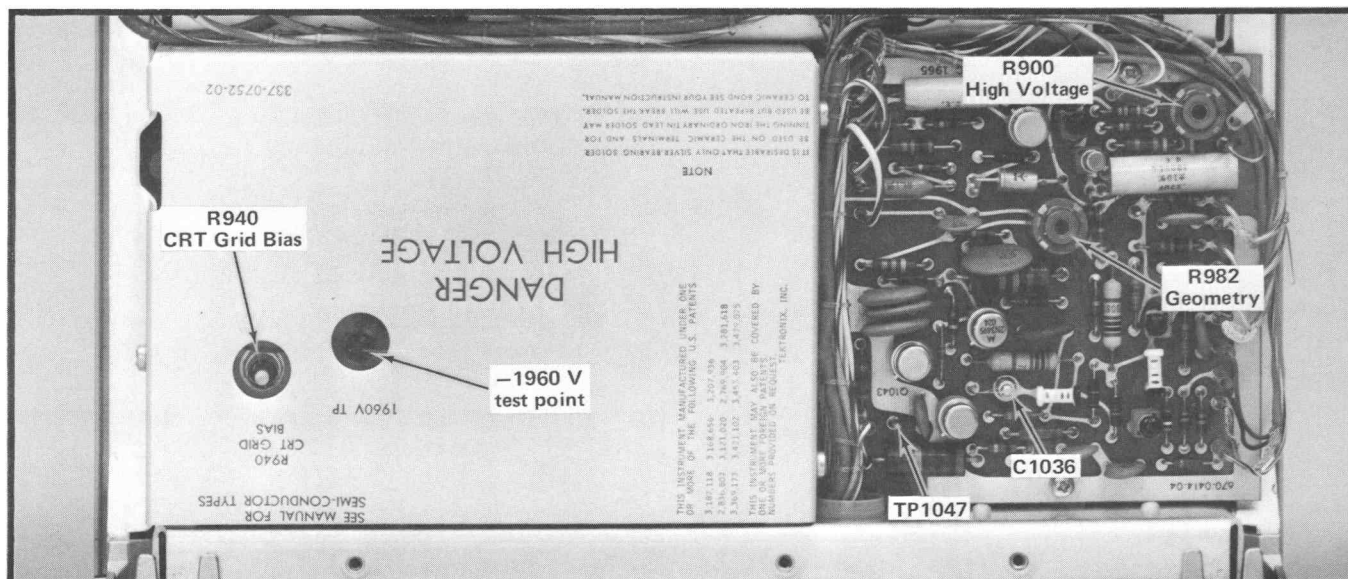

Fig. 5-4. Location of high-voltage and Z-axis test points and adjustments (bottom of instrument).
a. Connect the DC voltmeter (VOM)⁴ between the -1960 V test point (see Fig. 5-4) and chassis ground.
c. ADJUST—High Voltage adjustment R900 (see Fig. 5-4) for -1960 volts.
- a. Connect the DC voltmeter (VOM) between TP1047 (see Fig. 5-4) and chassis ground.
- d. ADJUST—CRT Grid Bias adjustment R940 (see Fig. 5-4) so the dot on the CRT is just extinguished (it may be necessary to turn the horizontal POSITION control clockwise to bring the dot onto the viewing area).
i. ADJUST—Geometry adjustment R982 (see Fig. 5-4) for minimum bowing of the trace at the left and right edges of the graticule.
c. Connect the probe tip to TP1047 (see Fig. 5-4); connect the probe ground to chassis ground with a short grounding strap.
g. ADJUST—C1036 (see Fig. 5-4) for optimum square corner on the unblanking gate (use a low-capacitance screw-driver).